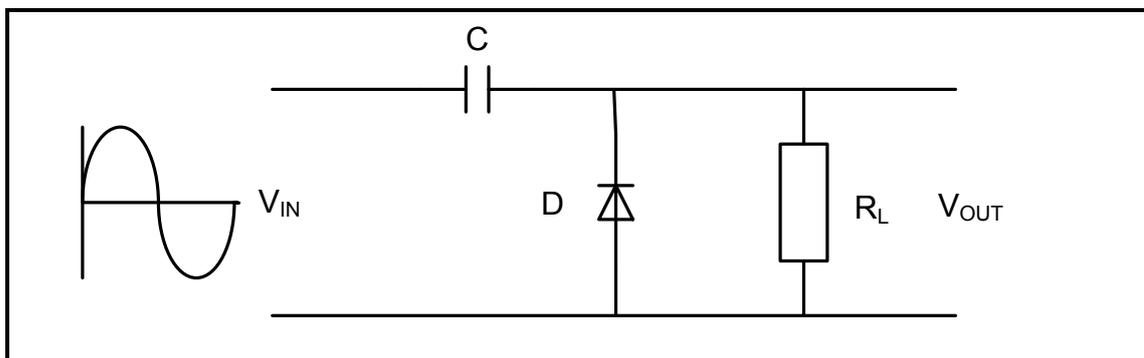

FIGURE 10.6
10.5 Refer to FIGURE 10.6 below and answer the questions that follow.